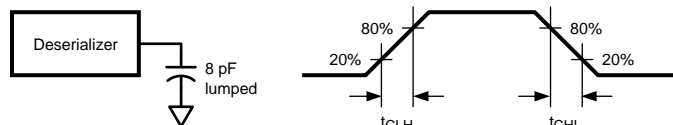

Figure 13. Deserializer LVCMOS Output Load and Transition Times
| $t_{CLH}$   | LVC MOS Low-to-High Transition Time | $V_{DDIO}$ : 1.71 V to 1.89 V or 3 V to 3.6 V, $C_L = 8$ pF (lumped load)Default Registers (Figure 13) (1) | PCLK                                      | 1.3   | 2    | 2.8  | ns   |
| $t_{CLH}$   | LVC MOS Low-to-High Transition Time | $V_{DDIO}$ : 1.71 V to 1.89 V or 3 V to 3.6 V, $C_L = 8$ pF (lumped load)Default Registers (Figure 13) (1) | ROUT[11:0], HS, VS                        | 1     | 2.5  | 4    | ns   |